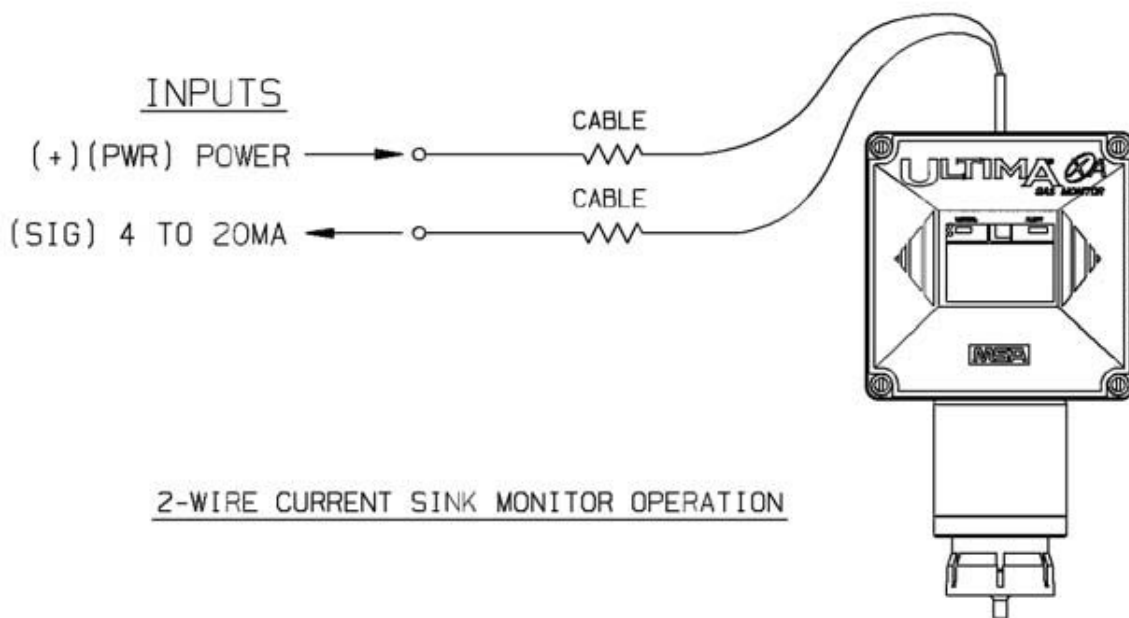
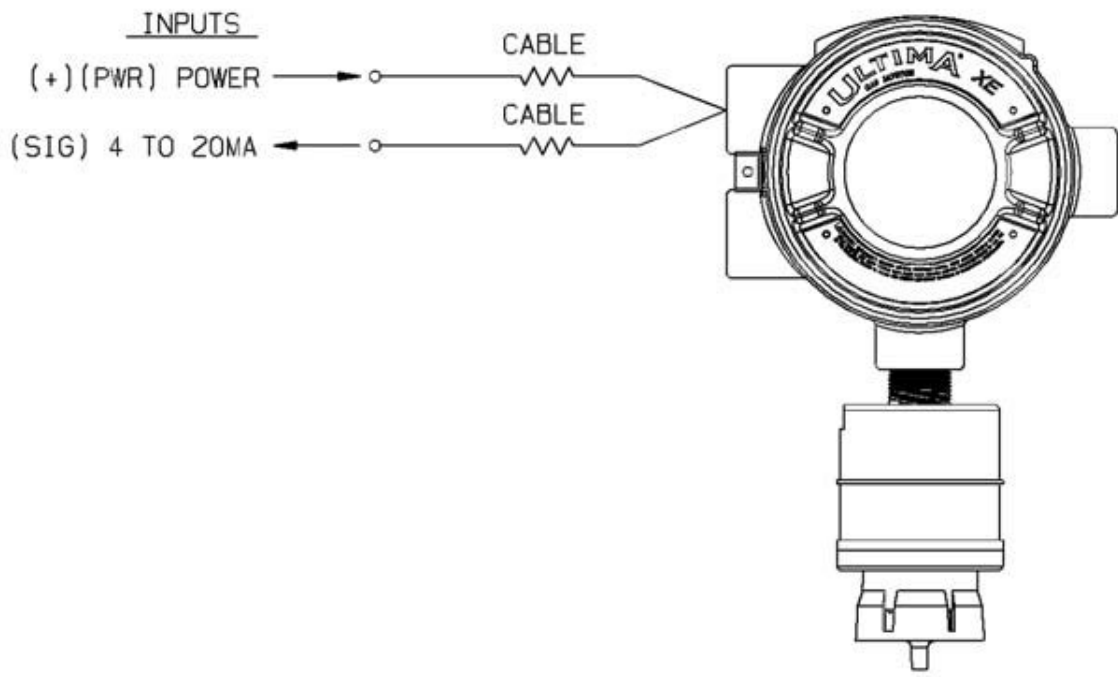

Fig. 10 General-Purpose Two-Wire Operation
Fig. 11 Explosion-Proof Two-Wire Operation
- Two-wire 4 to 20 mA Ultima X Series Monitors operate in the current loop mode (Fig. 10 for general-purpose) (Fig. 11 for explosion-proof).